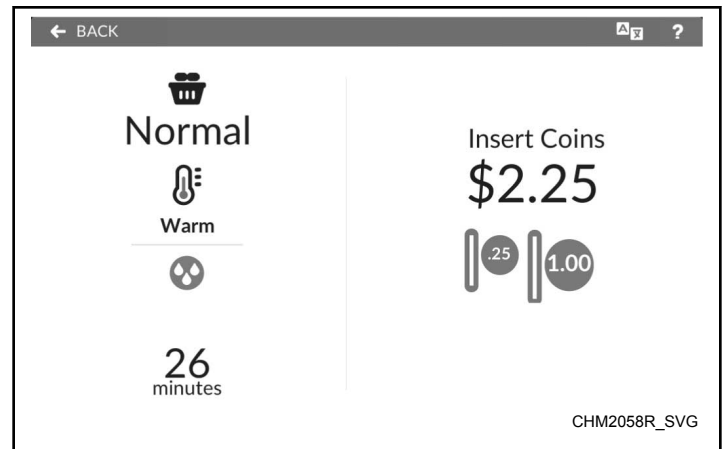

Figure 10
3. The Payment Menu shows the cycle selection summary and vend price total (refer to Figure 10). Once the total vend price is entered, the vend price total changes to show START.